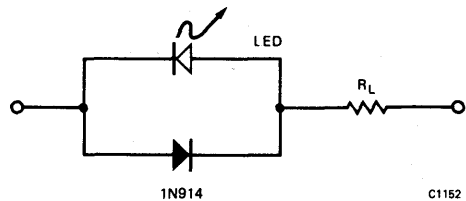
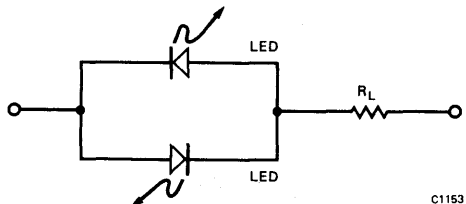

Fig. 7a. Bipolar Operation
Fig. 7b. Bipolar Operation
**AC Operation.** LED's should be operated in the forward direction only. Therefore, the LED circuit must provide reverse-voltage protection if applied voltage is expected to exceed the  $V_R$  maximum rating of the LED. Figure 7a shows a circuit having an ordinary silicon diode (e.g., 1N914) placed "back-to-back" with the LED. Figure 7b shows an alternate and more novel approach that utilizes two LED's in parallel. If no current flows, neither LED lights. But as long as current does flow (in either direction), one of the LED's lights and one does not (because one LED will be conducting